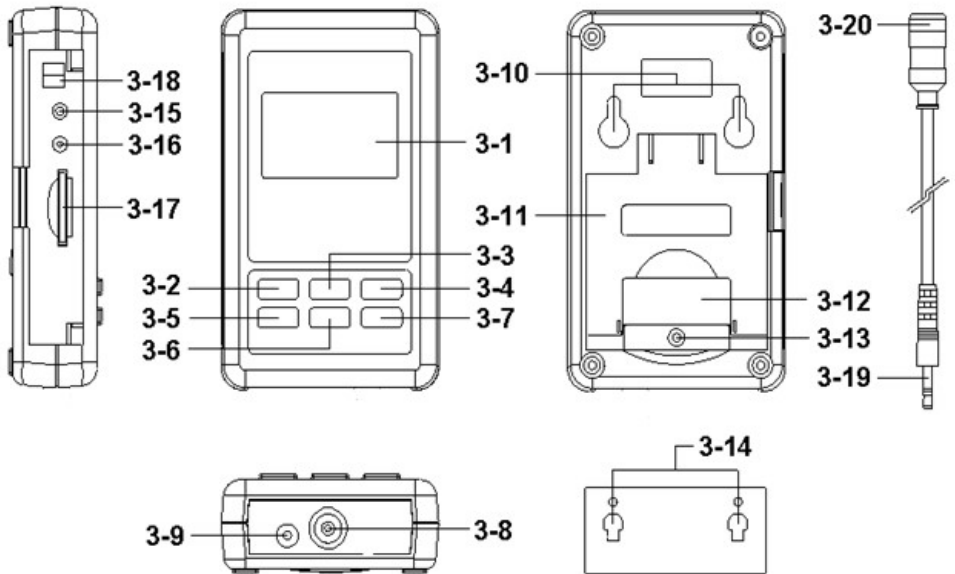

Fig. 1
- 1) Power ON the meter by pressing and holding the " Power Button " (3-2, Fig. 1)for at least 1.5 seconds, the meter's default function is " A"(frequency weighting) , " Fast"(time weighting) " Auto range ". The LCD display will show the Symbol " A, FAST , xx.x dB " .
Use the " ▲ Button " (3-3, Fig. 1) to select the Sound Measurement Range shown (AUTO , 30 - 80 , 50 - 100 , 80 - 130 ,AUTO) reading in the center of the range. If dashes appear on the display select a new range , After power on the default range is " Auto range " In the same time the LCD display will show the text of " AUTO " Under the auto range.
How to select the frequency weighting (A or C), by pressing and holding the " ▼ Button " (3-6, Fig. 1) for at least 2 seconds to select A or C Frequency weighting
According to various measuring sound source, by pressing the "▼ (Time Weighting) Button " (3-6, Fig. 1) once to select the Time Weighting (Fast or Slow or PEAK Fast) .
During the SPL measurement, pressing and holding the " HOLD Button " (3-4, Fig. 1) for at least 2 seconds will hold the measured value & the LCD will display a " HOLD " symbol. pressing and holding the " Hold Button " for at least 2 seconds again will leave the data hold function.
- 1) The data record function records the maximum and minimum readings. Press the " REC Button " (3-4, Fig.1) once to start the Data Record function and display is shown the " REC " symbol .
- a) Press the " REC Button " (3-4, Fig. 1) once, the " REC MAX " symbol along with the maximum value will appear on the display. Press the " REC Button" again the " REC MIN " symbol along with the minimum value will appear on the display. Press the " REC Button" again will show the " REC " symbol only & execute the memory function continuously.
After power ON, the " LCD Backlight " will light automatically. During the measurement, press the " POWER Button " (3-2, Fig. 1) once will turn off the " LCD Backlight ".
During the measurement, press the " Time Button " (3-5, Fig. 1) once display will show Year/Month/Date, Hour/Minute/Second and sampling time information.
Connect another mA meter into the SOUND LEVER DATA RECORDER (3-18 Fig1 4-20 mA Output Terminal) socket ,the recorder will be output 4-20 mA analog signal .
Prepare a " SD memory card " (1 GB to 16 GB, optional), insert the SD card into the " SD card socket " (3-17, Fig. 1). The front panel of the SD card should face against the down case.
Pressing and holding the " ENTER Button (3-7, Fig. 1) once , display is shown " LOGGER " , the " LOGGER " will flashing
During execute the Datalogger function , if press the " ENTER Button " (3-7, Fig. 1) once will pause the Datalogger function (stop to save the measuring data into the memory circuit temporality). In the same time the text of " LOGGER " will stop flashing.
If press the " ENTER Button " (3-7, Fig. 1) once again will execute the Datalogger again, the text of " LOGGER " will flashing .
Press the " ENTER Button "(3-7, Fig. 1) continuously at least two seconds, the " LOGGER " indicator will be disappeared and finish the Datalogger.
During the measurement if press " TIME Button " (3-5, Fig. 1) once, the LCD display will present the time and sampling time information of Year/Month/Date , Hour/ Minute/Second, and sampling time information in second unit.